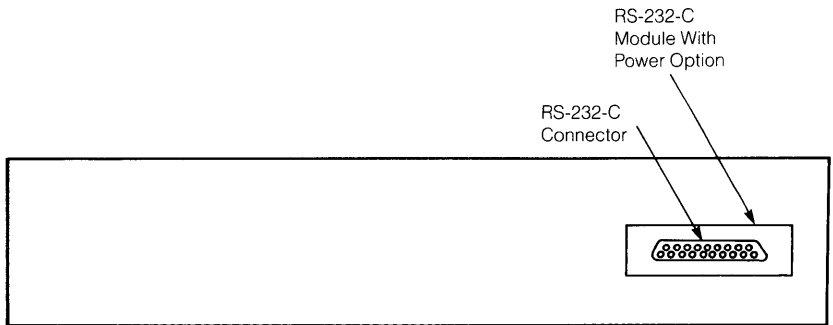

Figure 3: The back panel of the Mindset Personal Computer
- Figure 3: The back panel of the Mindset Personal Computer
4. Plug the pen into the pen port on the back panel of the tablet (see Figure 3). Tighten the two screws that hold the connector in place.